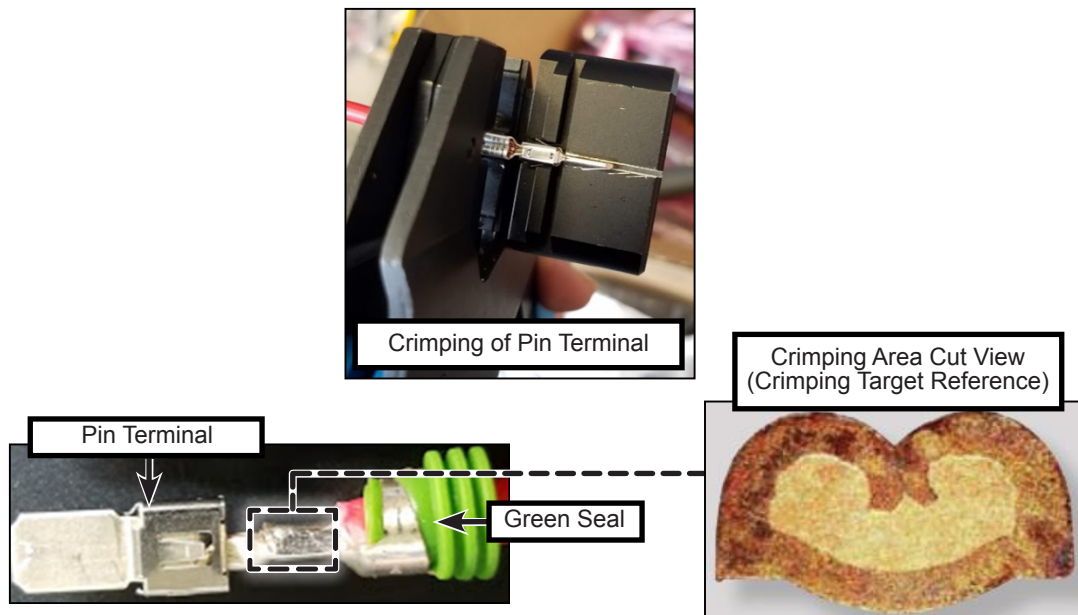

Figure 10 - TE Connectivity HDSCS Pin Terminal and Green Seal
- 1.20. Using the HDSCS crimping tool (see figure 7), crimp the pin terminal PN N97874-02 with the green seal PN N77238 on both RED and BLACK power wires (see figure 10). Refer to the figure below showing a typical HDSCS terminal crimp example and to Annex 1 for more information about the HDSCS connectors terminal crimping quality guidelines.